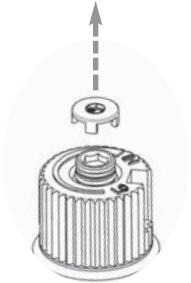

Fig. 1
- 9) Remove the black protection cap by hand from the high-low knob (Fig.1).